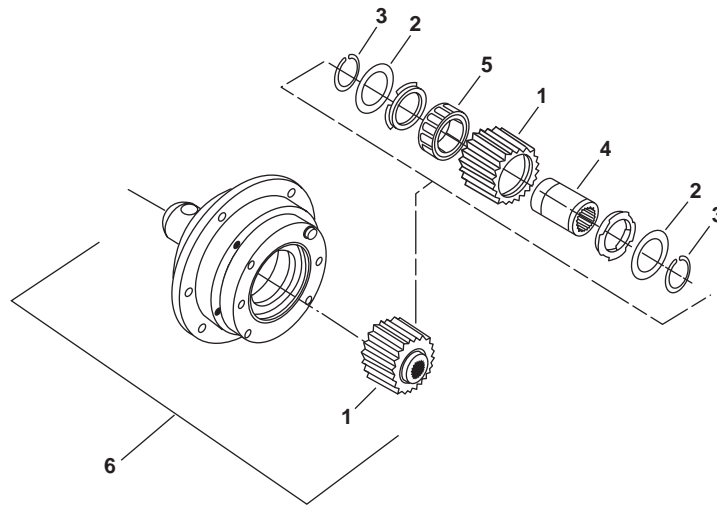

Figure 1. Clutch Brake
2. Clean all metal surfaces of the clutch brake (figure 1, item 1) with dry cleaning solvent and dry with compressed air.
3. Inspect the sprag bushing retainer (figure 1, items 2 and 3) for breakage, bright spots, and excessive wear. Replace the sprag bushing retainer if any of these conditions exist.
4. Inspect the inner race (figure 1, item 4) for scoring, wear, and indentations. Replace the complete clutch brake (figure 1, item 1) if any of these conditions exist.
5. Inspect the sprag clutch (figure 1, item 5) for abnormal wear, cracks, pitting, free movement of the cams, and corrosion. Replace the complete clutch brake if any of these conditions exist.
6. Inspect the clutch brake (figure 1, item 1) for scoring, wear, cracks, pitting, and corrosion. Replace the complete clutch brake if any of these conditions exist.